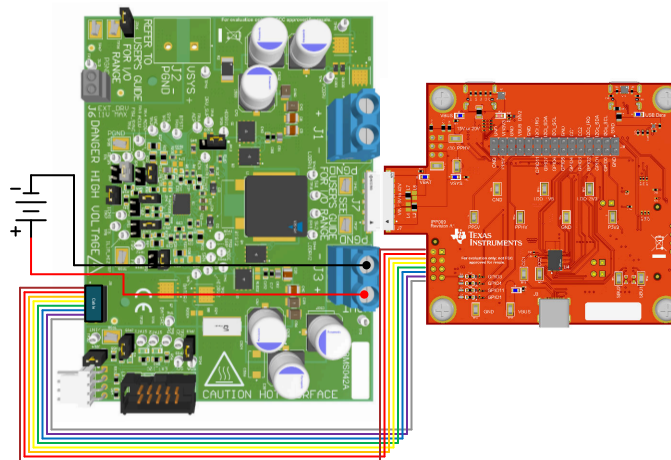

Figure 4-4. TPS25751EVM and BQ25756(E)EVM Hardware Setup
4. Connect the other end of the ribbon cable to J8 header of the BQ25756(E)EVM. Figure 4-4 shows the complete setup.